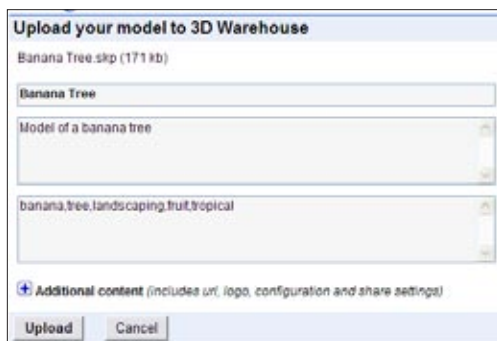

Figure 13-12
3. When you are signed in, the Upload page appears (Figure 13-12). Enter a model name and a description (these are mandatory). If you want, you can also enter tags: These are keywords people can use to find your model. For the banana tree model, tags could include *landscaping* or *tropical*. If the model is georeferenced (saved with a specific location), you will also see the Google Earth Ready option, which is described in Recipe 13.10. If you click the + sign next to “Additional content,” you will see additional options for adding a logo, adjusting privacy settings (Recipe 13.5), and so on.